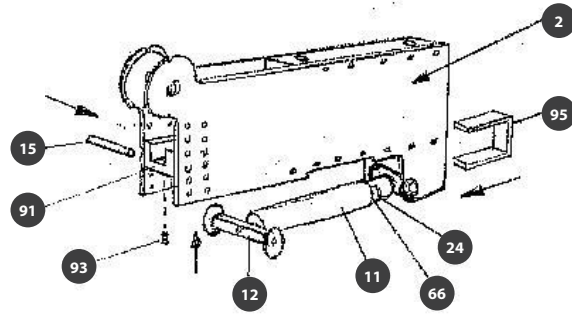

FIGURE 5
Step 2: Using left hand, push cylinder assembly (11, 12, 24, 66) down toward leg stand compressing springs. Slide cylinders hold clamp (95) over cylinder end and bottom plate (8) as shown in Figure 5.
Step 3: Install stationary die (91) between side plates (2). Select the proper pair of holes in the side plate to mount the stationary die and slip 2 – $\frac{1}{2}$ " x $3\frac{5}{8}$ " pins (13) through die. The stationary die should be located just below the rotating die. Make sure the ends of the pins are flush with the side plates and lightly tighten the set screws (93).
Step 8: Install the moving die (92) in the proper pin hole using hitch and clevis pin (15). The moving die should be at the same height as the stationary die (91) (Figure 5) previously installed.
DEGREE OF BEND – Refer to Figures 5, 8, 9, 12, 13